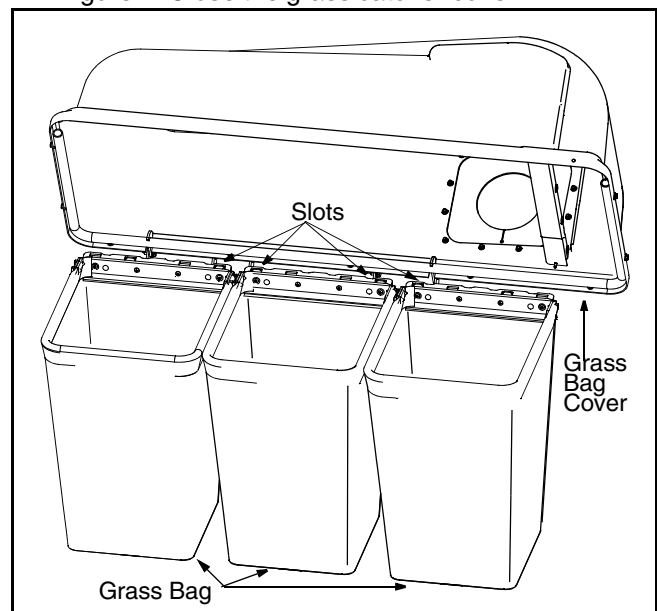

Figure 4
- Attach the grass bags using the slots shown in Figure 4. Close the grass catcher cover.